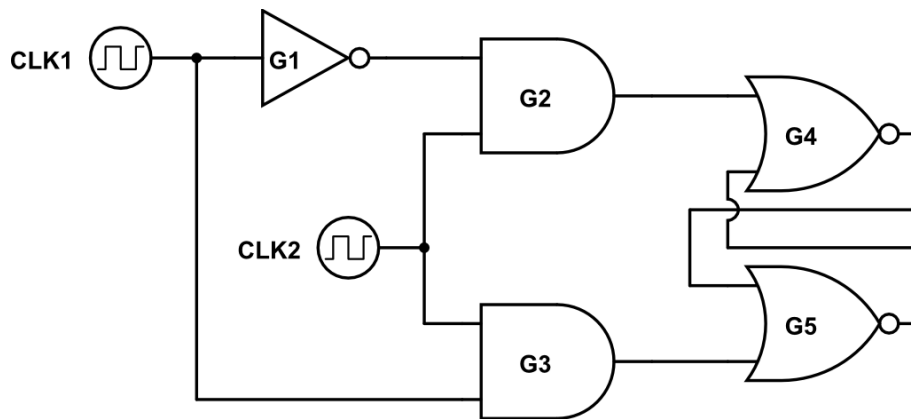

Figure 6: Circuit diagram of a Gated D Latch
**NB** The software used to draw the circuit diagram does not support the NAND gates with one input. Therefore the NAND gate G1 was substituted for a NOT gate as can be seen in Fig. 6.